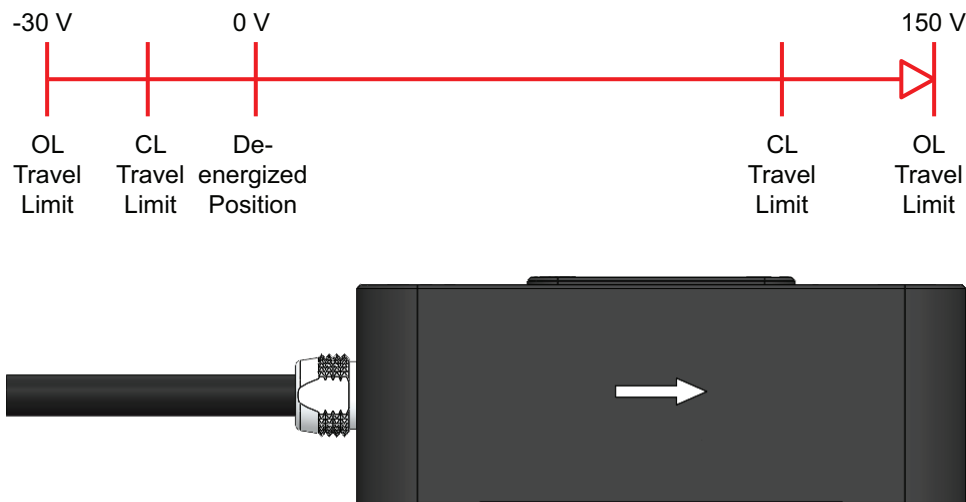

Figure 1-1: Single-Axis Stage Travel and Voltage Relationship
The piezo actuator in each QNPXY stage is an expansion device that expands proportionately with applied voltage. This has some practical implications for stage use. When de-energized (0 V), the actuator will compress and the stage will sit at one end of travel. When energized with positive voltage the actuator will expand and the stage will move toward the opposite end of travel. When energized with negative voltage the actuator will shrink and the stage will move further away from the center relative to the de-energized position. Each QNPXY stage is marked with arrows that indicate the direction of expansion (i.e. the positive voltage direction). Figure 1-1 illustrates the relationship between voltage and position for a QNP single axis linear stage. This is representative of all Aerotech piezo stages.
All QNPXY stages with feedback (-C option) have an open-loop (OL) and closed-loop (CL) travel range (refer to Section 1.4). This refers to whether the stage is using feedback control (CL) or not (OL). QNPXY stages purchased without feedback have an open-loop travel range only. The open-loop range is the travel that can be achieved over the entire -30 to 150 V operation range. When the stage is in closed-loop (servo on), it requires over-travel to account for a variety of operational conditions, so the closed-loop range is smaller. Refer to Figure 1-1 for an illustration of QNPXY stage travel ranges. QNPXY stages with the -C option are calibrated at the factory for optimal linearity over the specified closed-loop range only.